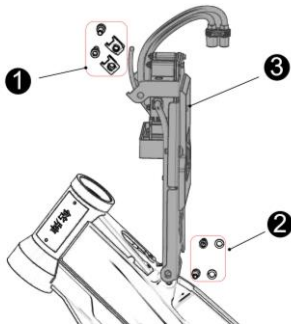

Fig 40
11.11 Dismount air switch combination (see Fig 40)